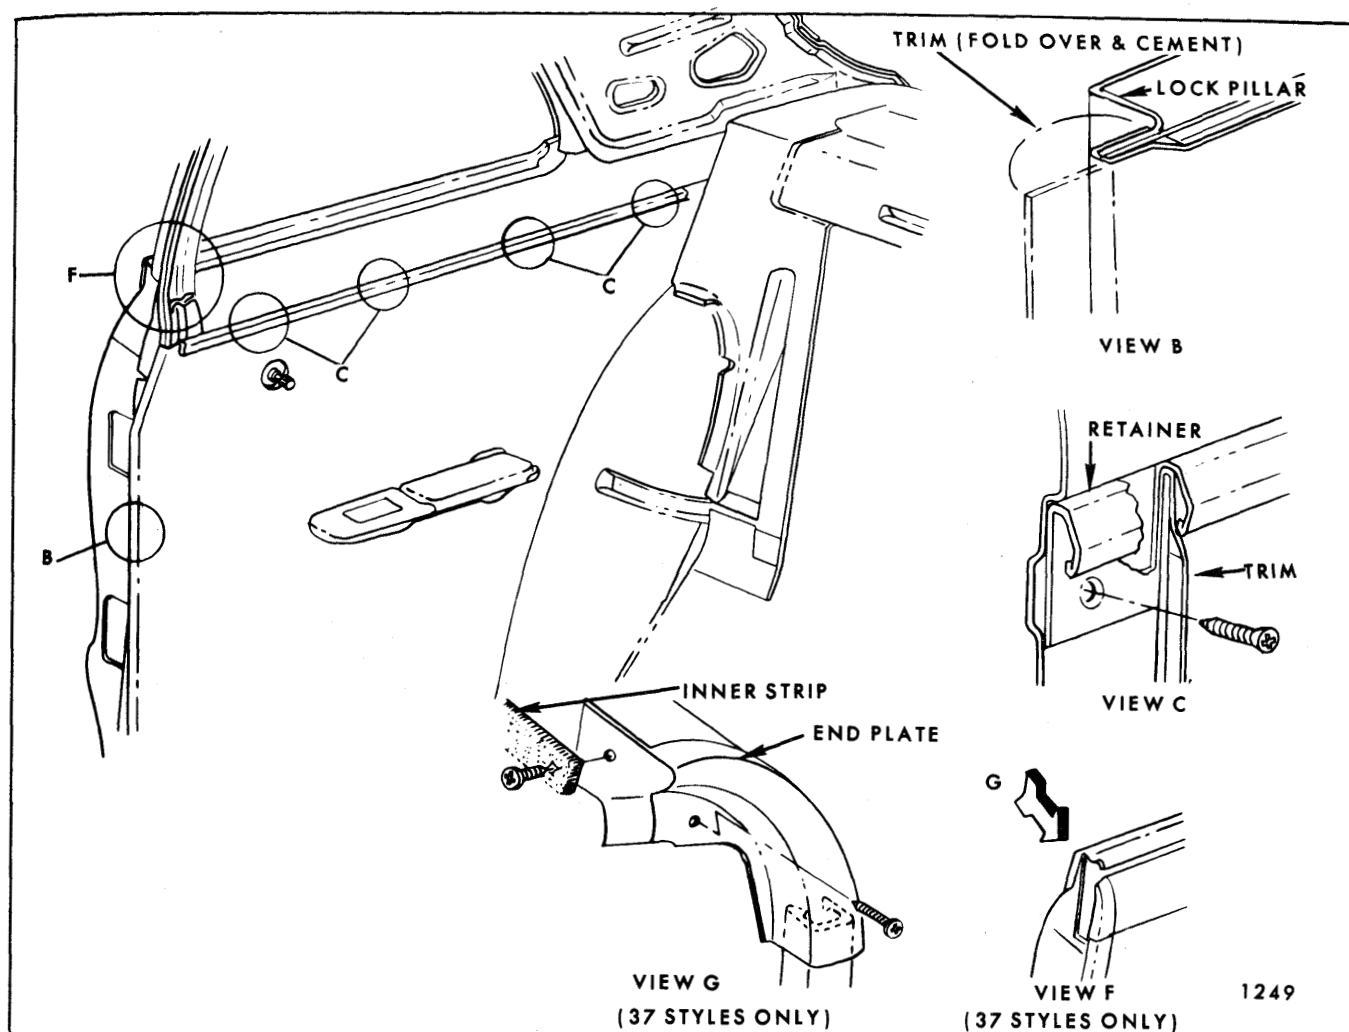

Fig. 8-5—Rear Quarter Trim Assembly—"A & X" Two Door Styles Except Convertibles
5. Carefully detach approximately three inches of the upper front cemented edge of trim material from body lock pillar pinchweld flange (Fig. 8-5 View "B"). Carefully bend or bow trim inboard sufficiently to disengage upper edge of trim from under finishing molding retainer (Fig. 8-5, View "C").
The finishing molding retainer (Fig. 8-5, View "C") is retained by screws and can be removed at this point, where required.
7. To install, reverse removal procedure. Prior to installation of pinchweld finishing strip, recement forward edge of trim to pinchweld flange (Fig. 8-5, View "B").